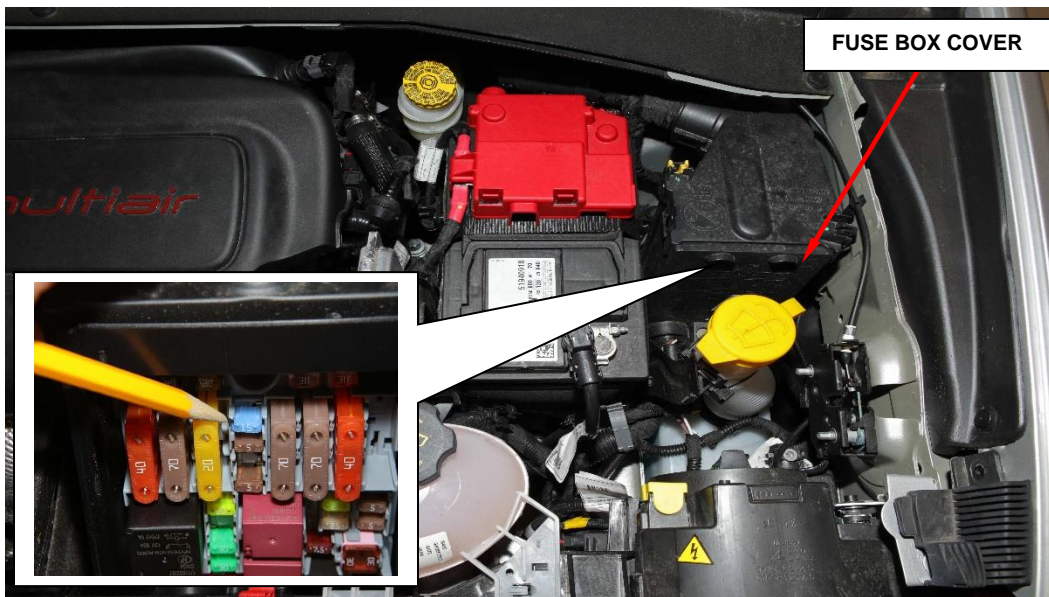

Figure 1 – Power Distribution Center
15. Install the F21 fuse into the PDC and reinstall the PDC cover (Figure 1).